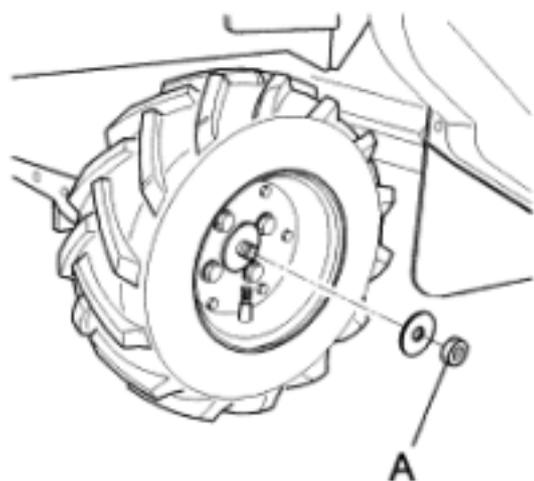

Fig. 7
- remove the wheel illustrated in fig. 7, by unscrewing and removing the central fixing screw ( fig. 7, ref. A)